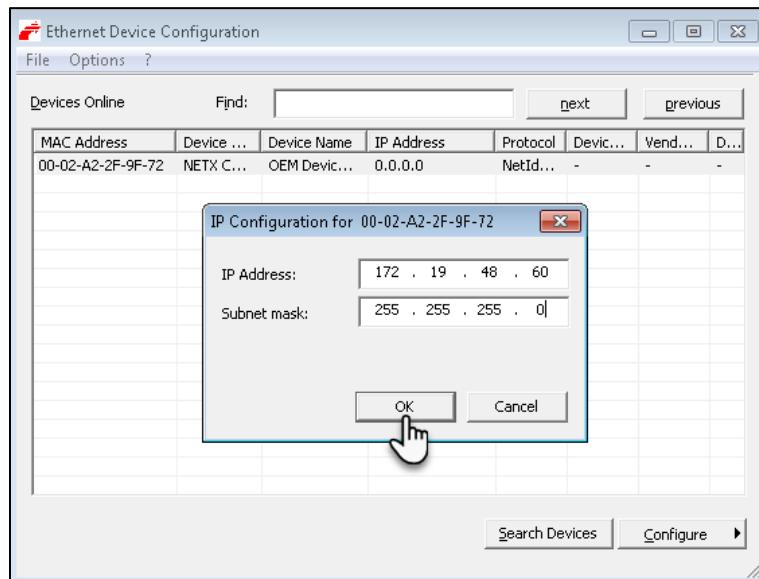

Figure 8: EDC IP Address and Subnet Mask Setup
- Enter the **IP Address** (e.g: 172.19.48.60) and the **Subnet Mask** as well as mentioned in **Figure 8** below.